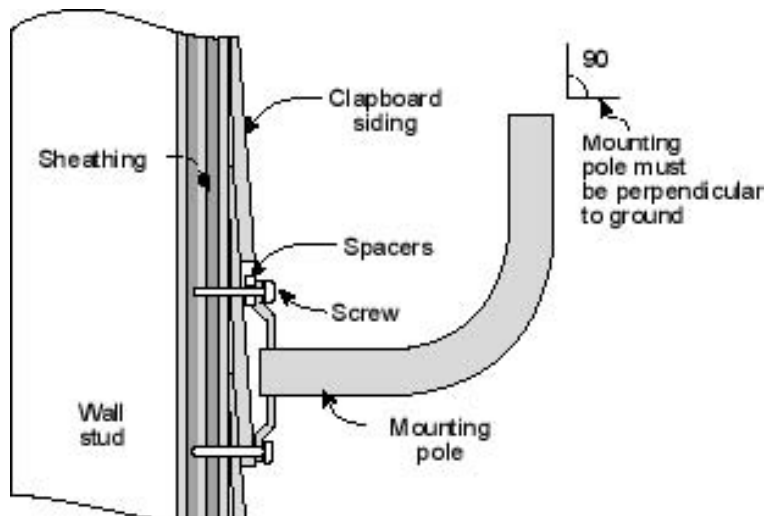

Figure 4-4 Mounting Pole on Clapboard Siding
- 2) Using a level, be sure that the mounting pole is perpendicular to the ground. You may need to use spacers, as shown in Figure 4-4.